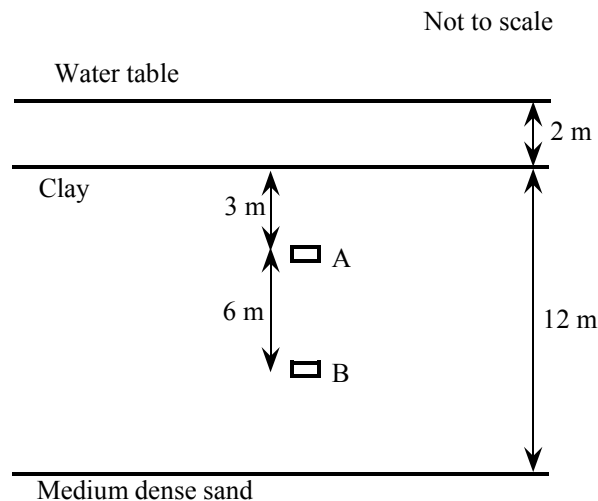

Fig. 1
- 1 A coastal site is to be reclaimed and developed. The soil profile, shown in Fig. 1, consists of 12 m of clay, underlain by a medium dense sand. The water level is 2 m above the soil surface.